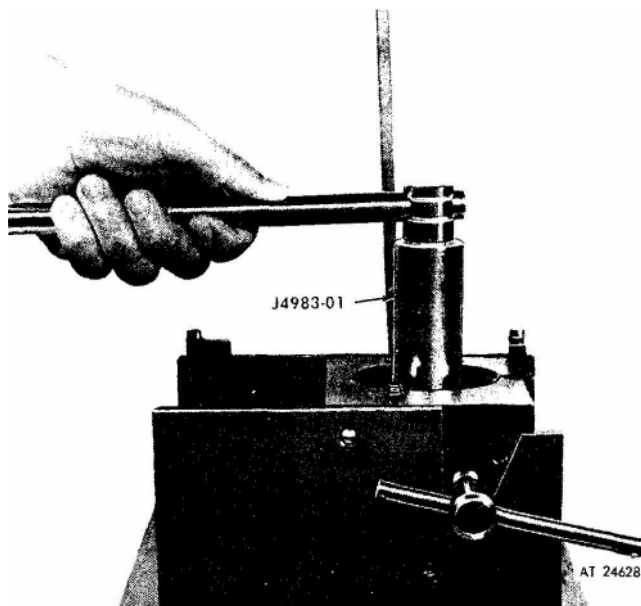

Figure 20. Removing injector nut.
4. Invert the fixture and, using socket J 4983-01, loosen the nut on the injector body (fig. 20).